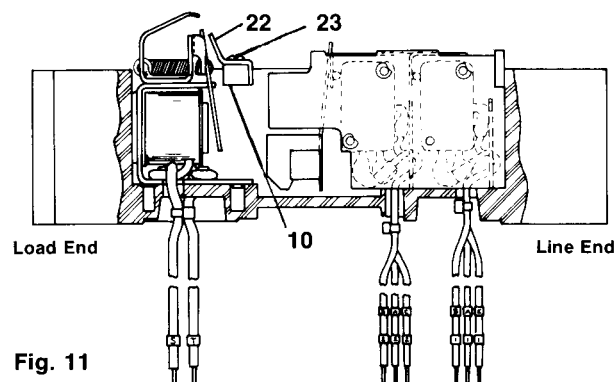

Fig. 11
4. Be sure wire leads (20) are pulled tight from the interior and maintain position by placing Ty-Wrap (21) as close as possible to outside rear of base molding. This will assure that the shunt trip assembly, when installed, will remain flat against bottom of breaker base molding.
5. Place trip lever (22) on top of tripper bar (10) with long, angled leg facing shunt trip as illustrated in Fig. 11. Fasten in position with self-tapping screw (23) provided.
7. Properly installed features will be positioned as indicated in Fig. 11.